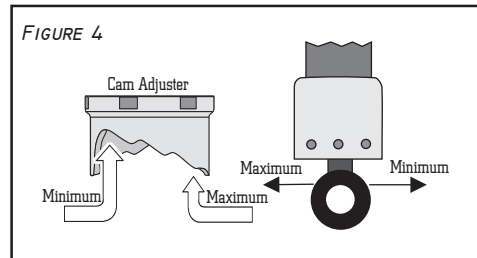

FIGURE 4
8. Make sure both cam adjusters are adjusted to the minimum setting (see figure 4).
A. If excess bottoming occurs, adjust preload cam to a higher setting on both shocks. (See Figure 4) If bottoming persists after adjusting to the highest setting, a spring with a higher rate may be required.